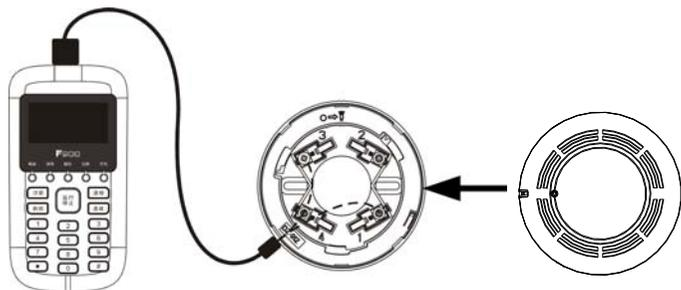

Fig.5
4. Coding address: As shown in Fig.5, detector is accessed via the detector mounting base on the coder, non-polarity connection is adopted for the terminals L1 and L2, set the coder with the coding function, select the correct address number and press the RUN key to complete the address code setup. (Note: See the User's Manual of the coder for the detailed operation.)
A self-contained complete base is necessary during the installation of a detector. As shown in Fig.5, the model, the external dimensions, the mounting hole diameter and the mounting hole spacing of the base are DZ-912, $\Phi 100\text{mm} \times 26.4\text{mm}$ (diameter \times thickness), $\Phi 4.5\text{mm}$ and $44.5\text{mm} \sim 64.3\text{mm}$ respectively.